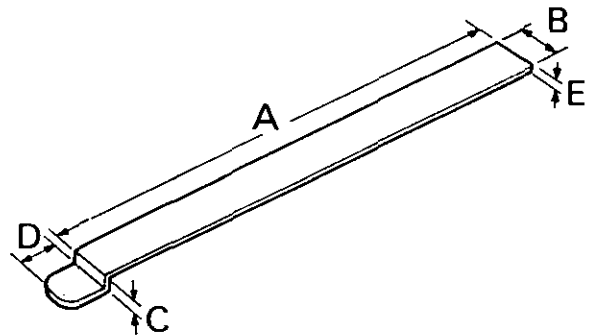

Figure 23. FEELER GAUGE — LAYCOCK CLUTCH
2. Make a feeler gauge to the dimensions shown in Fig. 23 and remove cover plate from right-hand side of the clutch housing.